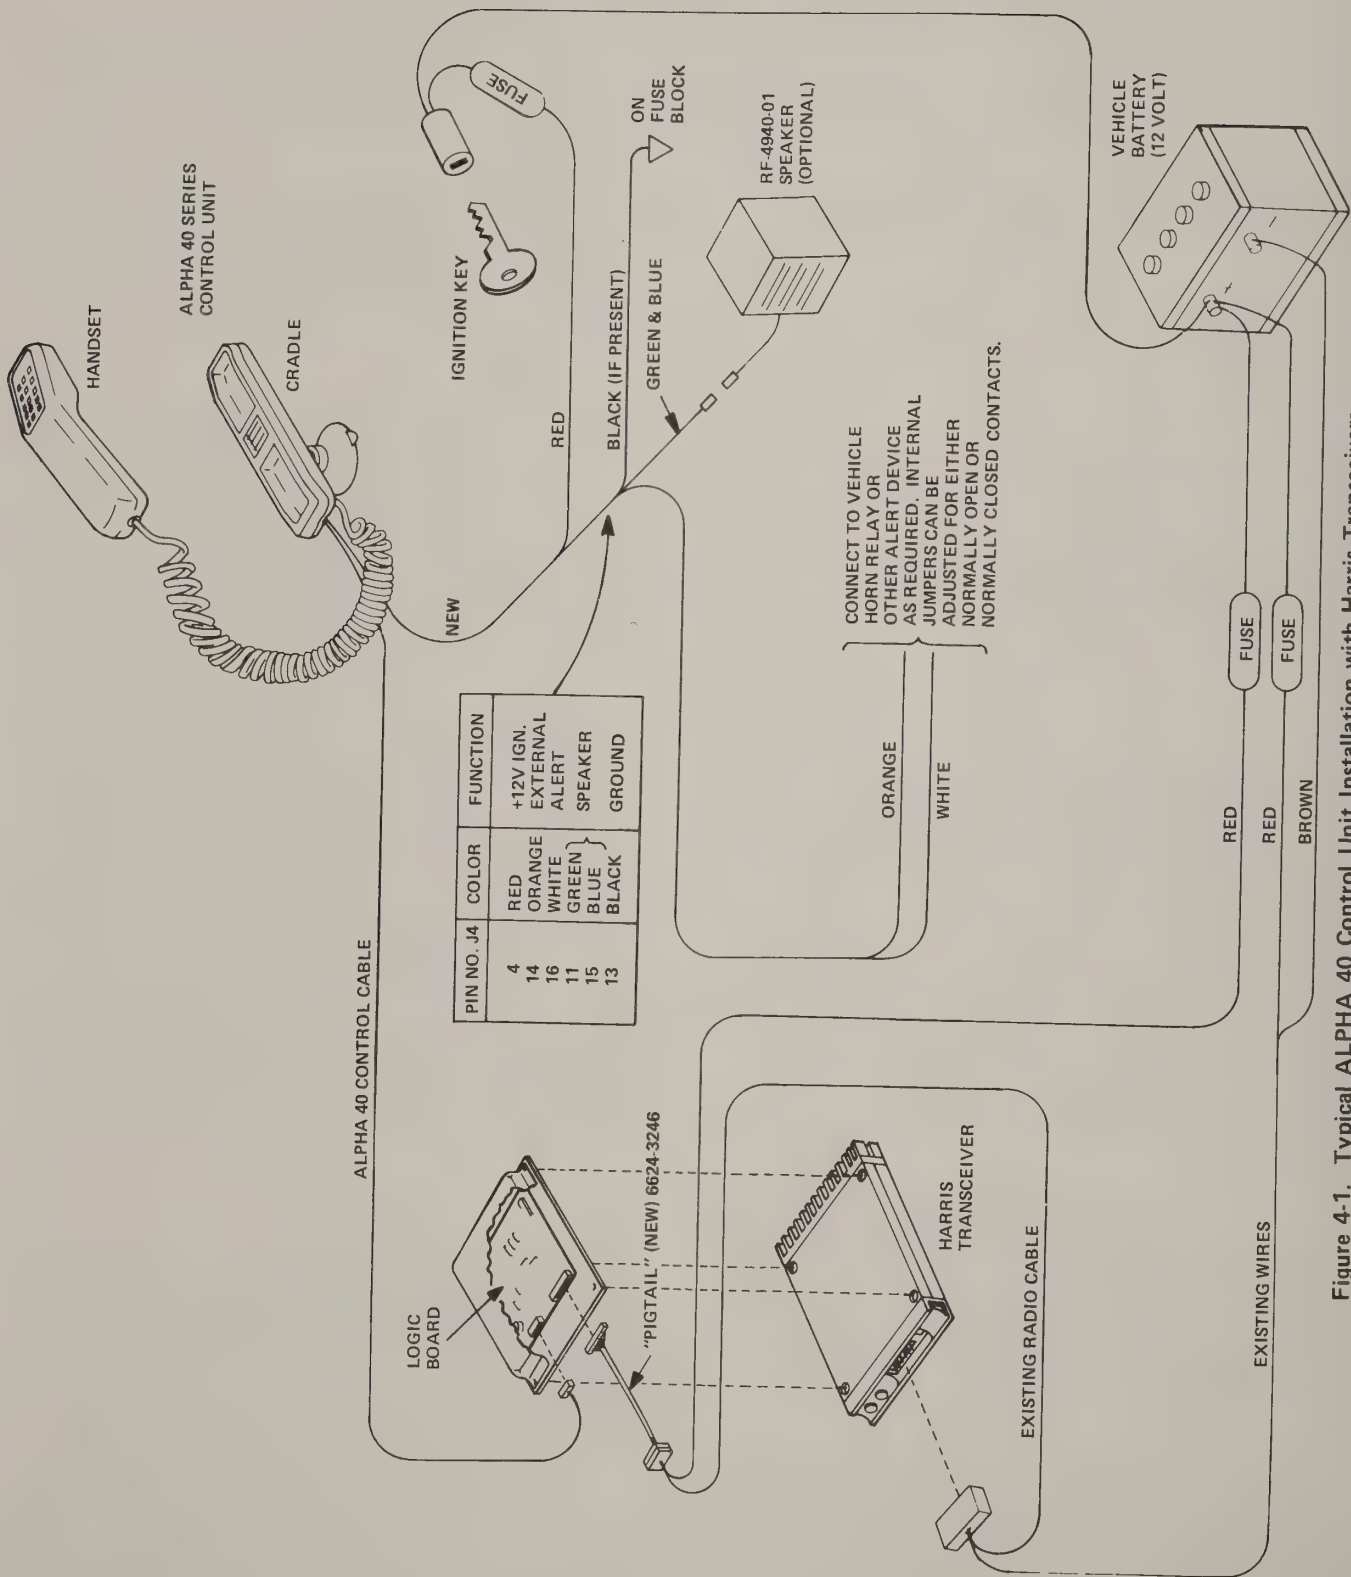

Figure 4-1. Typical ALPHA 40 Control Unit Installation with Harris Transceivers
1.04 Figure 4-1 shows cabling and wiring of a typical Harris Transceiver installation.